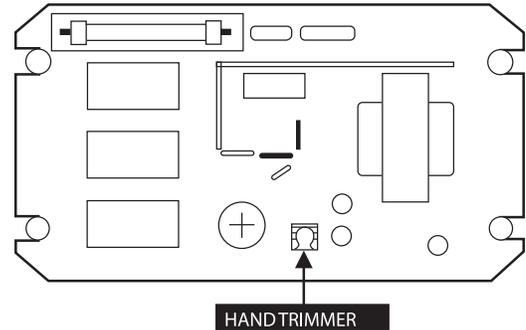

Figure 31: Hand Trimmer Location on AVR.
- a. If there is some voltage, but it does not build up to rated voltage, voltage adjustment can be made using the “hand trimmer” in the AVR (Figure 31).